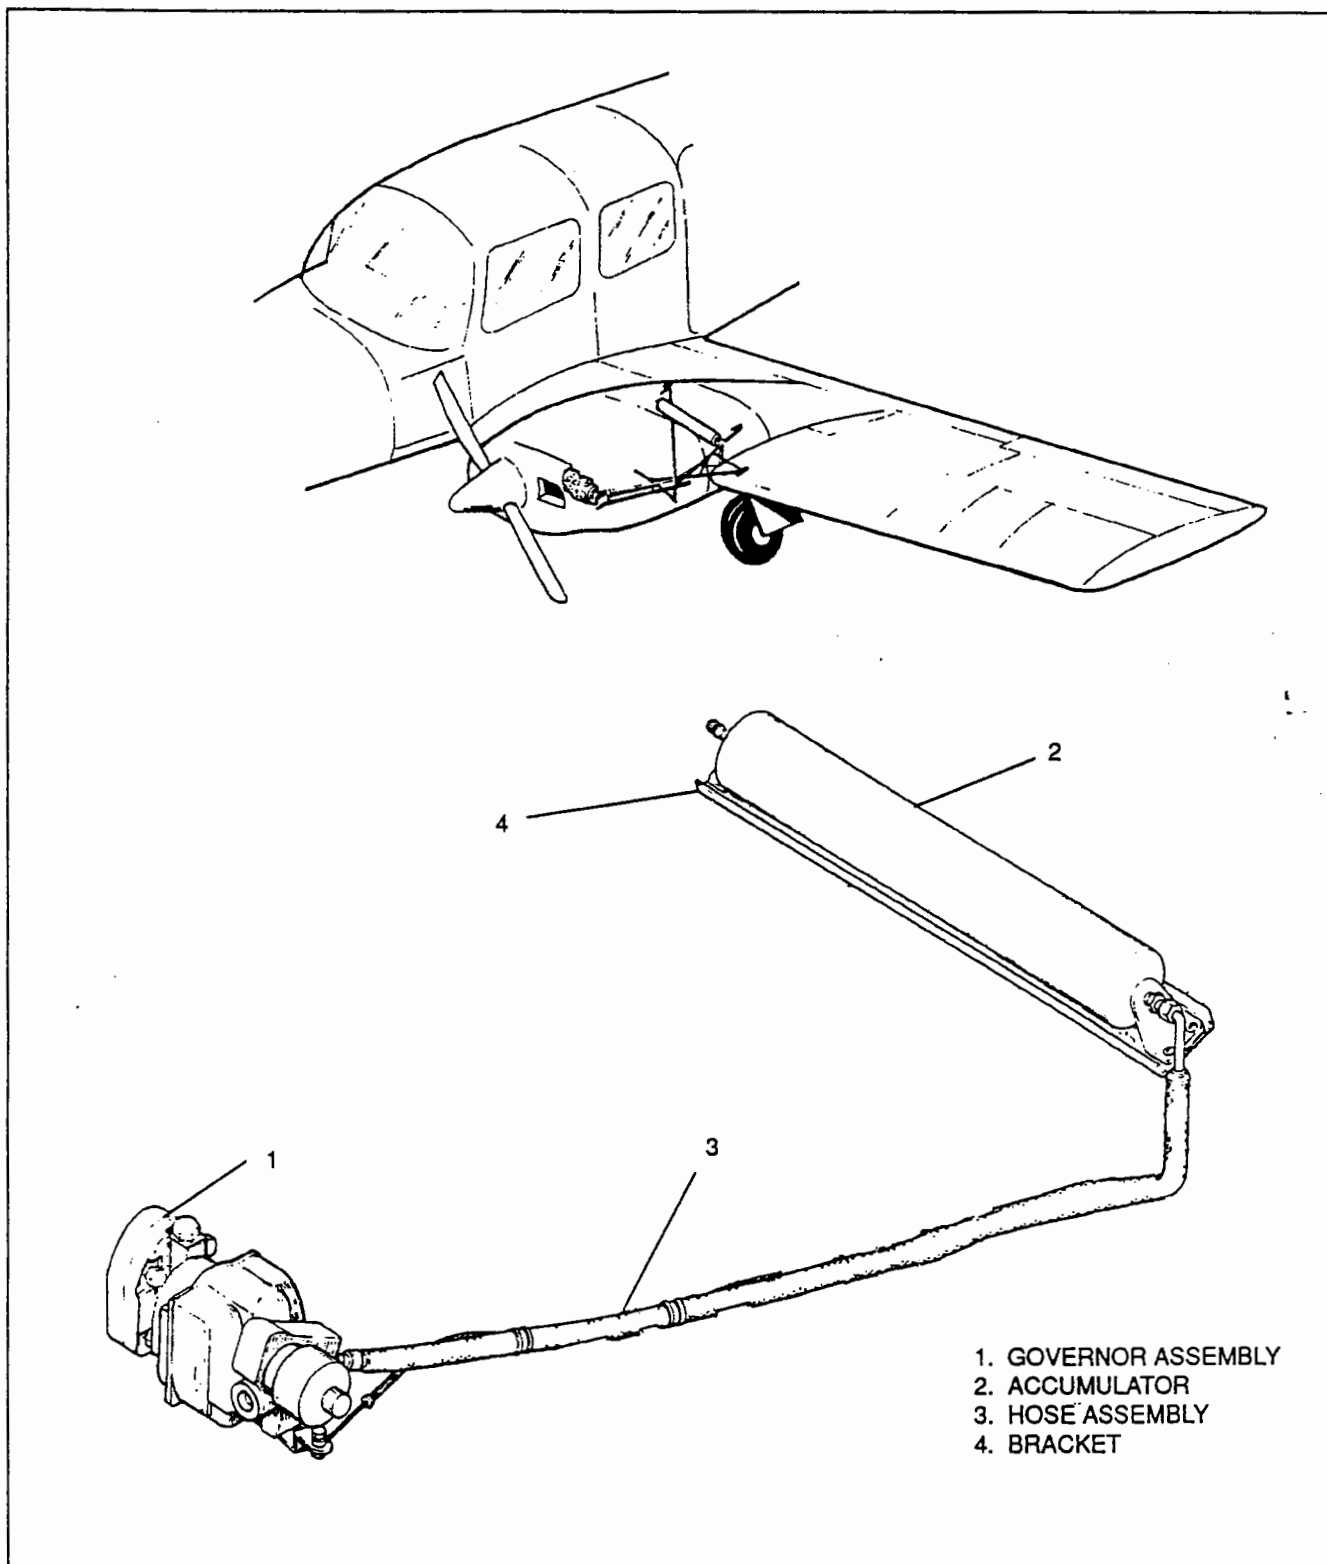

Figure 61-8. Propeller Unfeathering System.
- F. Malfunctioning pulse generator as explained in Figure 61-8.
12. If the wiring harness checks good, but the right or left engine, or coil light does not function properly, check the pulse generator as explained in Figure 61-8, Pulse Generator Backup Test, and replace the generator or governor as necessary.